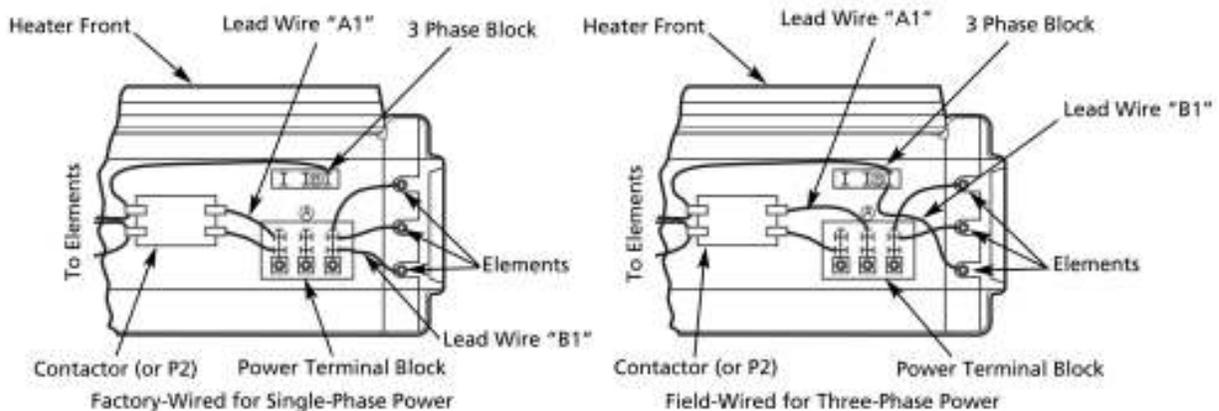

Figure 4a - Wiring Connections for Single-Phase and Three-Phase Power (DR-P275 and DR-P2100)
- 9 For model DR-P275 and DR-P2100 (Figure 4a), move only the two wires marked "A1" and marked "B1" do not move or change any other wiring. The element lead wire marked "B1" which is factory connected to the power terminal block (terminal located closest to the elements) must be moved to terminal "B" on the three-phase terminal block.